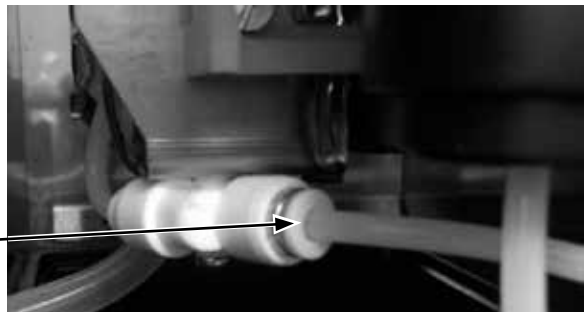

Figure 6
8. Install group head tube into quick connect fitting on bottom of espresso drive, insuring that the tube is fully inserted as shown in Figure 6.